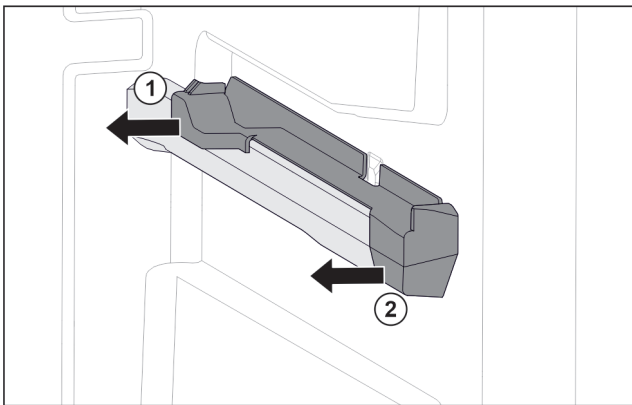

Fig. 146 Attachment on the right molded rib
- ▶ Pull off attachment at the back sideways. Fig. 146 (1)
- ▶ Pull off attachment at the front sideways. Fig. 146 (2)